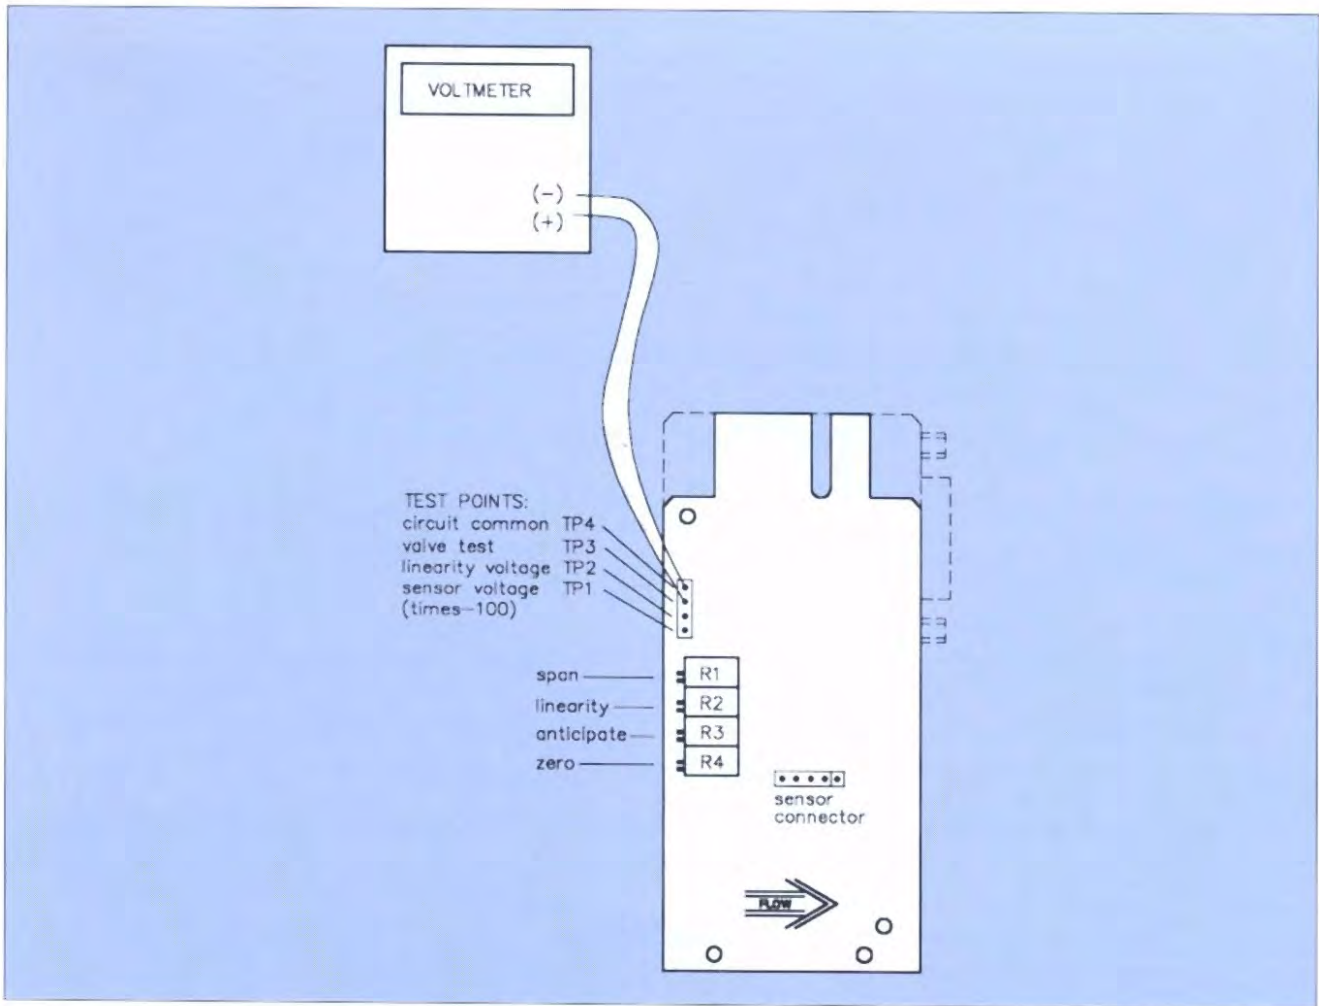

Figure 4-3 Voltmeter Connections for Valve Adjustment
- Measure the valve voltage by connecting a voltmeter between test point 3 (TP3) and test point 4 (TP4). Refer to figure 4-3.